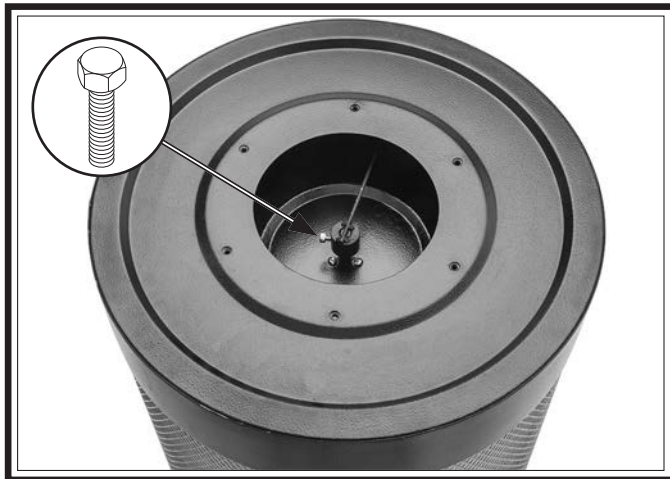

Figure 20. Lower alignment arm installed to filter spindle.
16. Attach lower alignment arm to filter spindle with M6-1 x 16 hex bolt (see **Figure 20**).